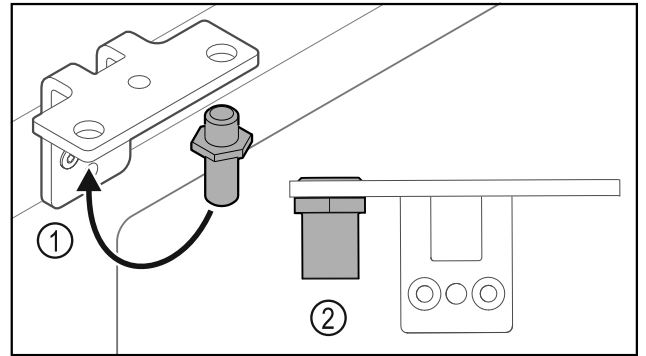

Fig. 35
- ▶ Put the pin back into the hinge Fig. 35 (1).
- ▶ Tighten the pin Fig. 35 (2) to a **torque of 12 Nm (9 ft-lb)**.